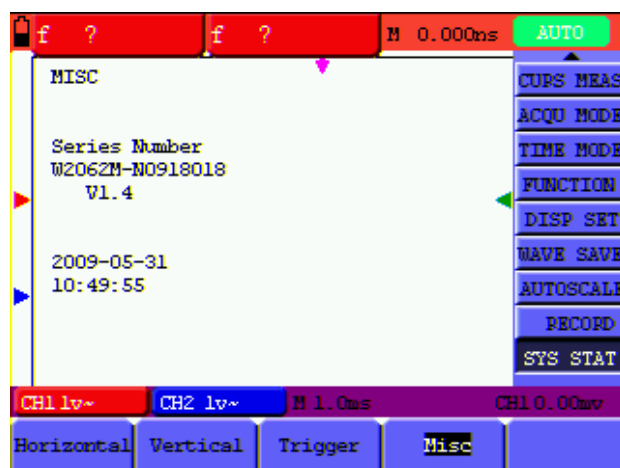

Fig.68
3. Press **F4** key and select **Misc** to display the system time ,see Fig.68.